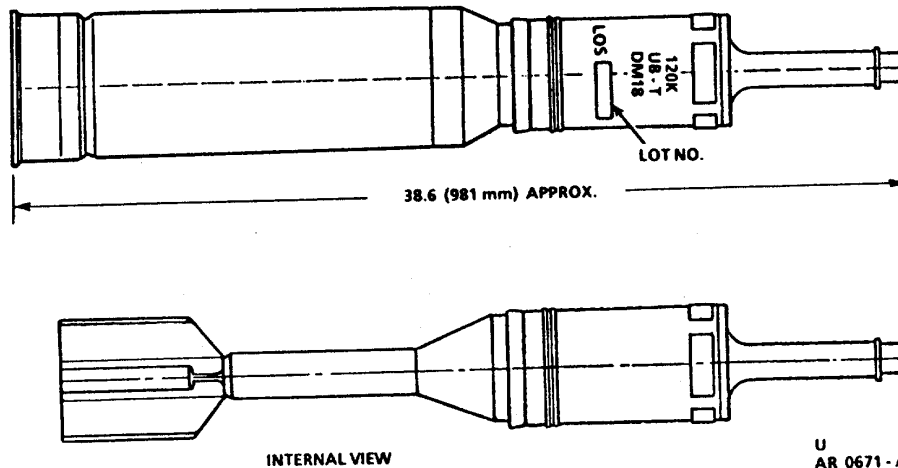

Figure 10. Cartridge, 120K: UFB-T, DM18.
n. Description for Cartridge, 120K: UIB-T, DM18 (Übungsgeschoss-Leuchtspur/Training Projectile with Tracer) (fig. 10). The DM18 cartridge external appearance is identical to that of the DM12 HEAT-MP-T service round. Internally the round does not contain any explosives, shaped charge liner base fuze or nose cap. The round consists of a steel body with aluminum spike and plastic obturator, in addition to a fin and boom assembly with tracer. The complete round propellant system comprises a metal cartridge case base with combustible sidewall and DM12A2 primer. The propellant is a single perforated stick propellant, both bagged and unbagged with additional segments fitted over each fin.
(1) Use. The 120K (120mm) DM18 cartridge is a target practice round used to simulate the ballistics of the high explosive antitank multipurpose with tracer ammunition. The cartridge is fired from the 120mm smooth bore cannon.
(2) Functioning. The DM18 is loaded and fired in the normal manner from the 120mm smooth bore tank gun. When the electric primer in the breech of the weapon is initiated, the resulting flash ignited the propelling charge and combustible case. This generates gases which drive the projectile from the gun and ignite the tracer element. The flight characteristics simulate those of the service round, but does not result in an explosion or penetration upon impact.